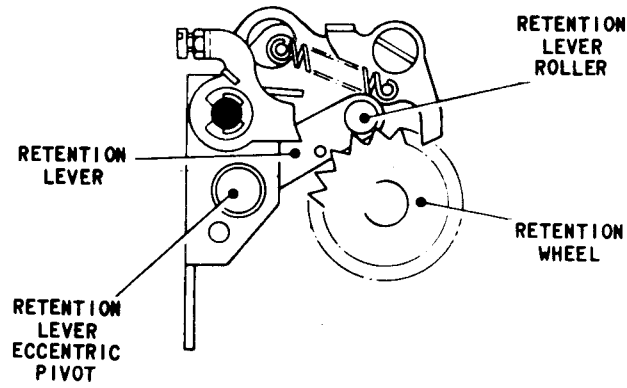

FIG.L.14 RETENTION LEVER MECHANISM
- 11.8 Press the back space roller several times in the direction of the arrow. Check that each time the roller is pressed, the tape feed spindle is rotated counter-clockwise by one complete pitch and then located securely by the retention lever, roller, Fig.L.14.
- (a) Lift the retention lever, Fig.L.14, out of engagement with the retention wheel
- 14.3 If the feed hole pitch varies regularly but the cumulative variation over ten inches is more than half a feed hole pitch, slacken the nut securing the retention lever eccentric pivot, Fig.L.14, and turn the eccentric until the feed hole pitch is regular. Tighten the nut.